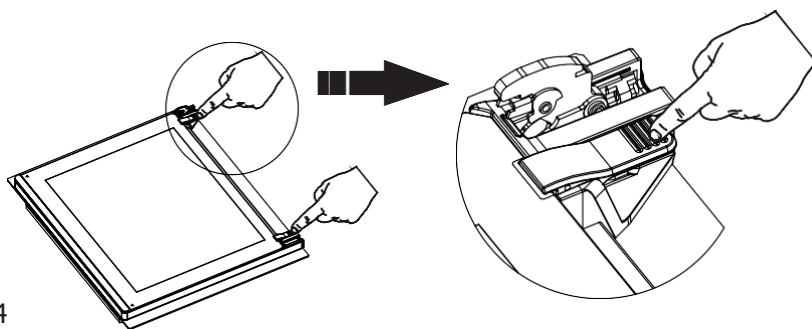
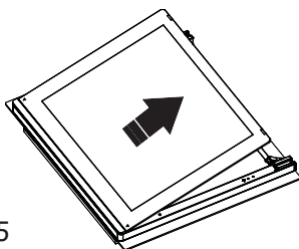
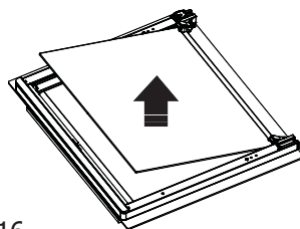

Figure 14
Figure 15
Figure 16
2. Press the plastic clips on the left and right side as shown in figure 14. After pressing the clips as shown in figure 15, the glass will be released. Carefully pull the glass that has become free toward you. Carefully remove the middle glass by lifting it upwards, as shown in figure 16. The outer glass is fixed to the oven door profile. You may easily clean the glass after it has been separated. Once the cleaning and maintenance is complete, you may replace the glasses by performing the removal procedure in reverse. Make sure that the glass is positioned in the correct direction and properly seated in place.